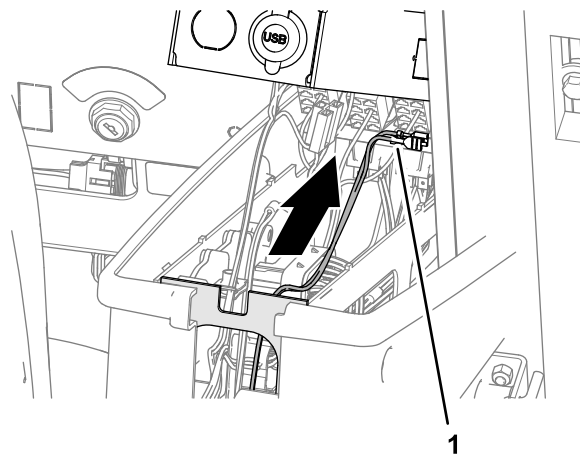

Figure 107
3. Route the wire harness branch labeled REMOTE ENGAGE SWITCH) toward the arm panel (Figure 107).